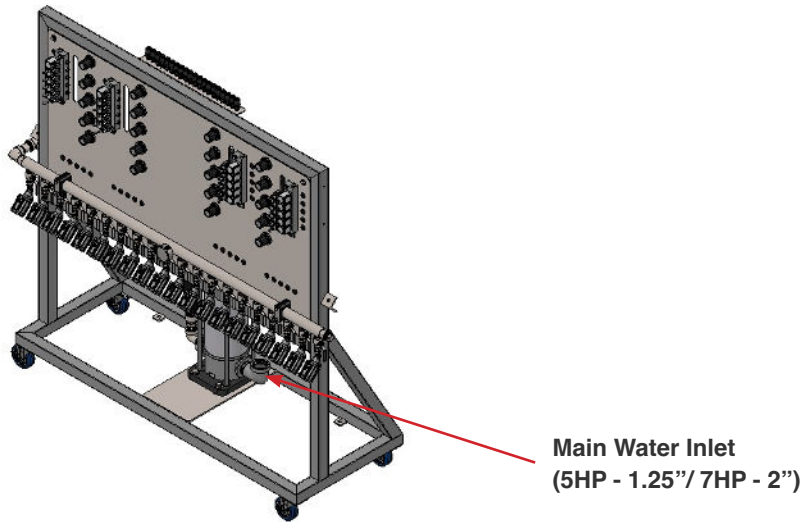

Fig. 3.2.1 - 1 - Water line connection
2. Install water feed line to the inlet side of the pump using appropriate fittings for site hosing (Fig.3.2.1 - 1).